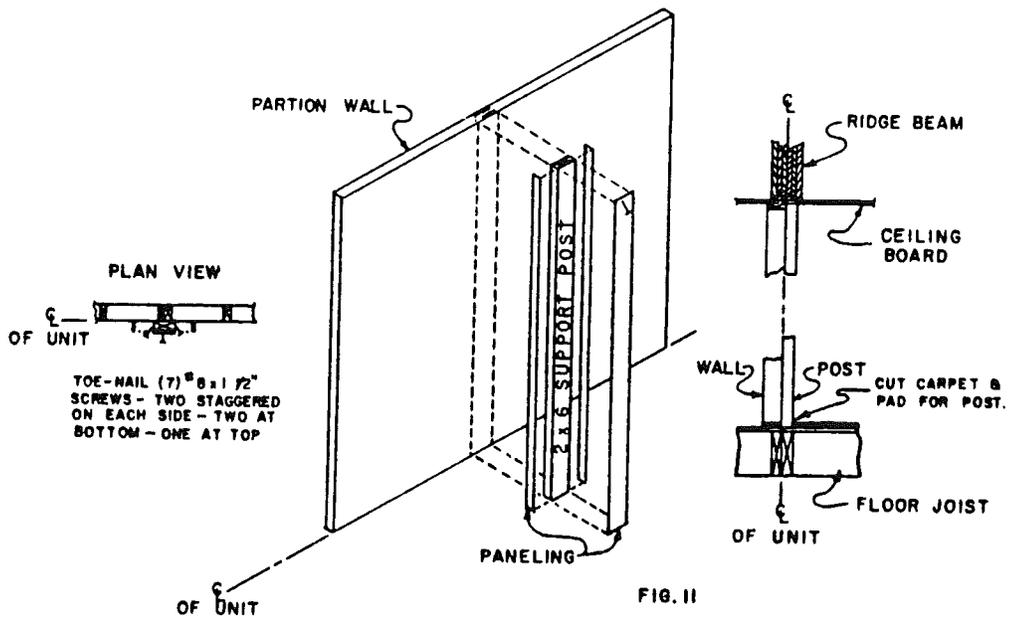

FIG. 11
6. Because certain floor plans do not have loadbearing walls or partitions installed at certain critical structural areas, it is necessary to install a 2"x6" ridge beam column support along the marriage line. Its location will be clearly labeled along the floor line. See fig. 11. The ridge beam must be properly aligned and completely fastened together before installing the ridge beam column support.